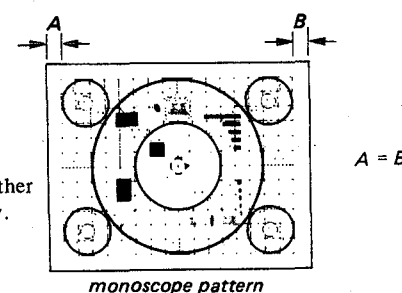

Fig. 23-3
7. Adjust RV7 on the DA board so that the blanking width at the right and the left sides are equal to as shown in Fig. 23-3.